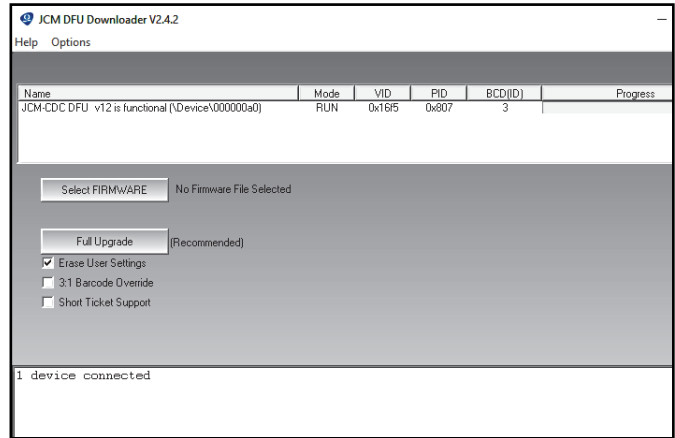

Figure 2 JCM DFU Downloader V2.4.2 User Interface (cut-away)
**Answer:** JCM is releasing Version 2.4.2 of the JCM DFU Downloader Software Tool (**Figure 2**). The JCM DFU Downloader has been modified to use Windows 10® certified Printer Drivers for improved connections with Windows 10 (all builds) and better communication with JCM GEN2U™, GEN5™ and CouponXpress™ Thermal Printers.